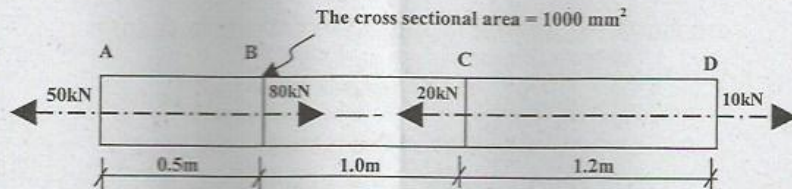

Fig. 11 (a)
11. (a) A prismatic brass-bar shown in Fig. 11 (a) is subjected to axial forces as indicated. Find the magnitude and nature of the deformation of the entire bar. Take Young's modulus of elasticity of the bar as 105 GPa. (10 + 3)